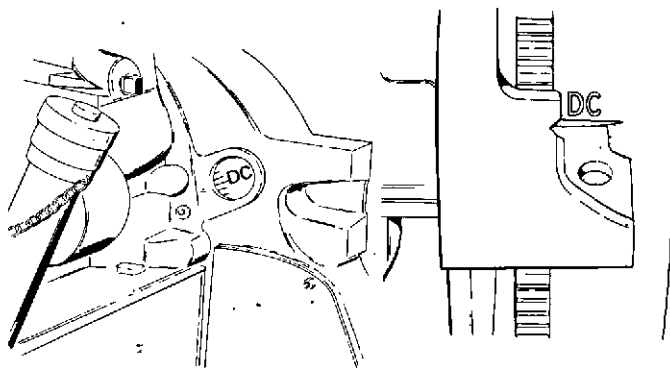
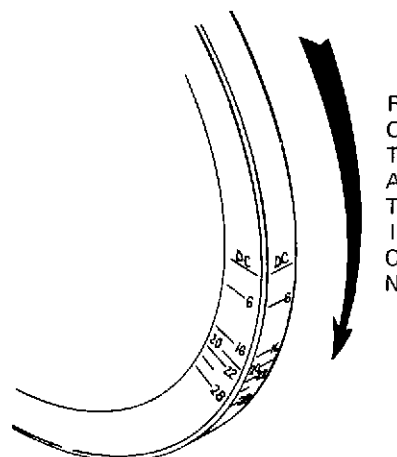

Figure 3-4. Alternate Timing Locations
Figure 3-5. Standardized Timing Marks
1. See figure 3-5 for an illustration of standardized flywheel timing marks.
make the timing mark more visible under the timing light. Start the engine and run it at the specified speed. Shine the timing light on the timing hole in the bellhousing, or on the edge of the bellhousing, as shown in figure 3-4. Read the timing by noting the mark on the flywheel which aligns with the mark on the bellhousing. Standardized timing marks for late model engines are shown in figure 3-5.
f. Paint or chalk a line on the engine flywheel at the proper timing mark location. This will make the timing mark more visible under the timing light. Start the engine and run it at the specified speed. Shine the timing light on the timing hole in the bellhousing, or on the edge of the bellhousing, as shown in figure 3-4. Read the timing by noting the mark on the flywheel which aligns with the mark on the bellhousing. Standardized timing marks for late model engines are shown in figure 3-5.